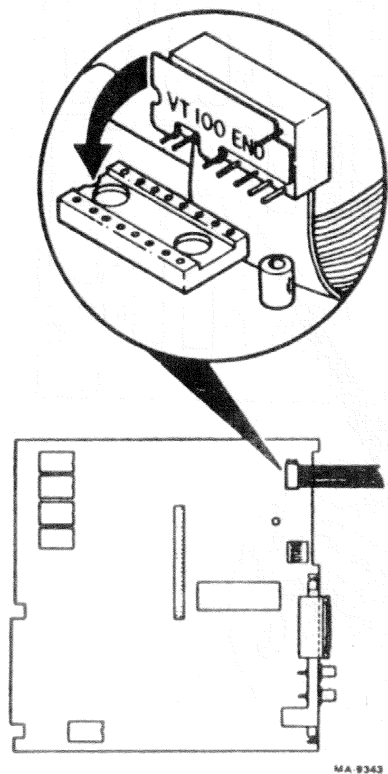

Figure 6-8 16-Pin Flat Cable on Terminal Controller
12. Install the VT100 end of the 16-pin flat cable connector to the lower 16 pins of the terminal controller board's graphic connector (marked J2 on the terminal controller board), with the cable entering from the right (Figure 6-8).